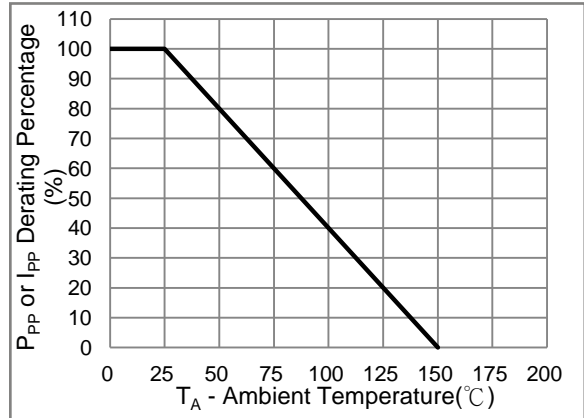
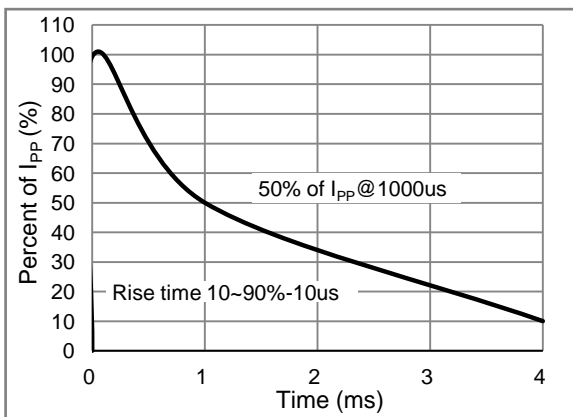

Fig.2 Derating Curve
Fig.3 10/1000μs Pulse Wavform
1. Non-repetitive current pulse, per Fig.3 and derated above T_A = 25°C per Fig. 2.